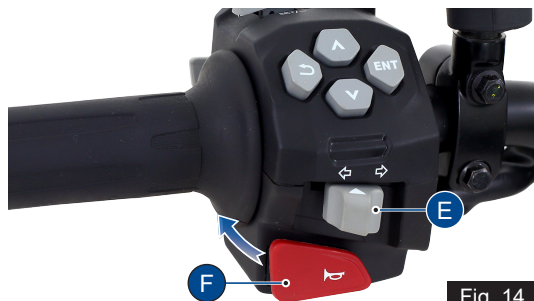

Fig. 14
E) Switch turn signal (ref. Fig. 14)
F) Horn switch (ref. Fig. 14)